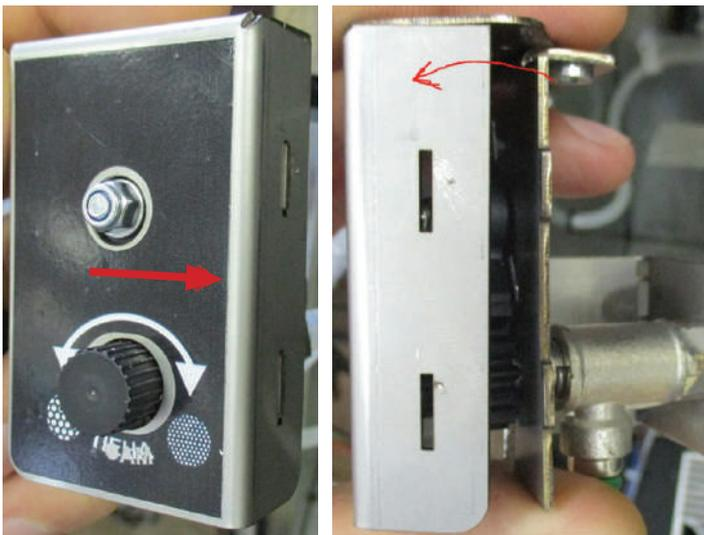

Fig.4.14
3. Displace the enclosure and remove it from the valve body (fig. 4.14).